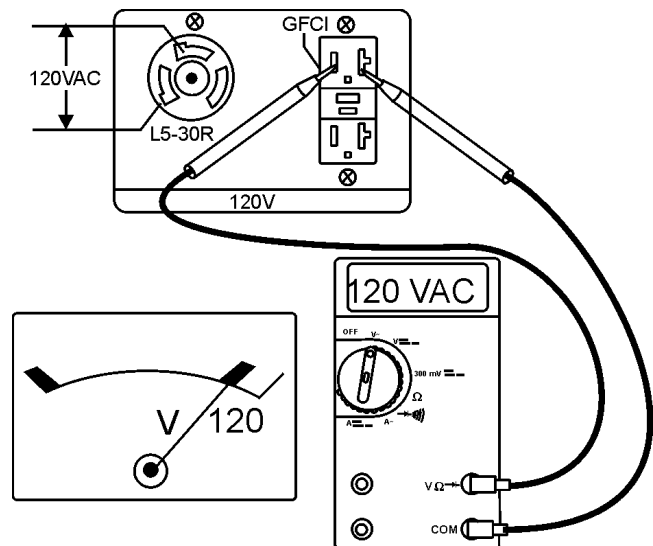

Figure 19. 120V/GFCI Receptacles
- Place main circuit breaker (Figure 19) in the **ON** position.
- Place GFCI circuit breaker (Figure 19) in the **ON** position.
- Read voltmeter on front panel of generator (Figure 19) and verify that 120 VAC is displayed. Using an external voltmeter as shown in Figure 19, verify that 120 VAC is present at the 120V twist-lock and GFCI duplex receptacles. .